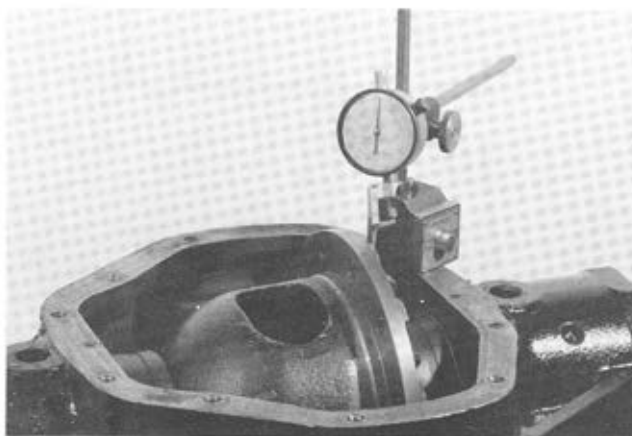

Figure 4-45
- (1) Total amount of space measured without ring gear as shown in Figure 4-45
- (1) Total amount of space measured without ring gear as shown in Figure 4-45.